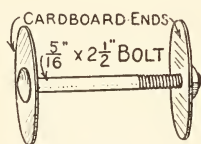

Fig. 188
**The Induction-Coil** is the first part to make. This is shown in detail in Figs. 188 to 191. The coil has windings
diameter. Slip one of these on to the bolt next to the head, and the other one next to the nut, as shown in Fig. 188.